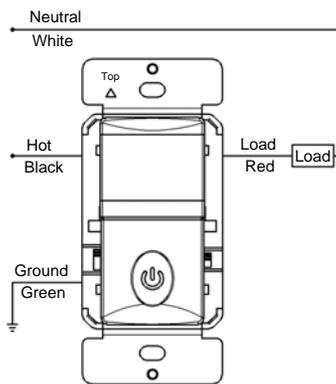

Figure 2
1. Connect lead wires as wiring diagram (see Figure 2): Black lead to hot wire, red lead to load wire, green lead to ground wire.